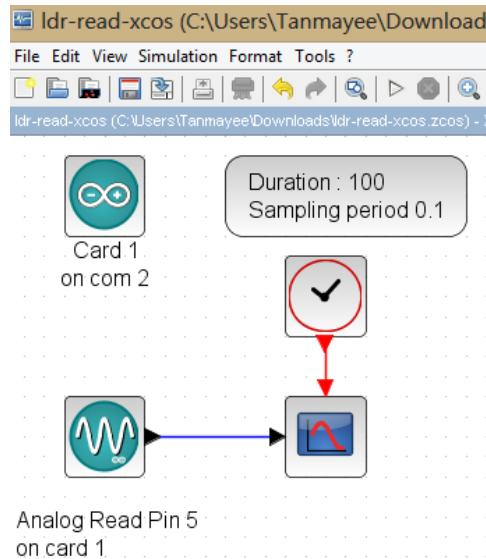

Figure 6.5: Xcos diagram to read LDR values. This is what one sees when `origin/user-code/ldr/scilab/ldr-read.zcos`, see Footnote 2 on page 2, is invoked.
1. First we will read the LDR values and display it. When the file required for this experiment is invoked, one gets the GUI as in Fig. 6.5. In the caption of this figure, one can see where to locate the file.